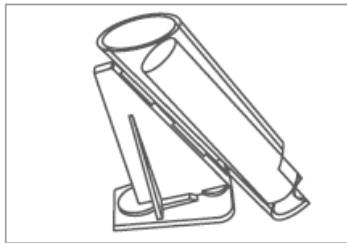

Figure 1: Coin roll inserted into coin tube
2. Insert the appropriate pre-formed paper wrapper in the coin tubes with the crimped end down. Ensure the top of the paper wrapper is below the top lip of the coin tube as shown in Figure 1.